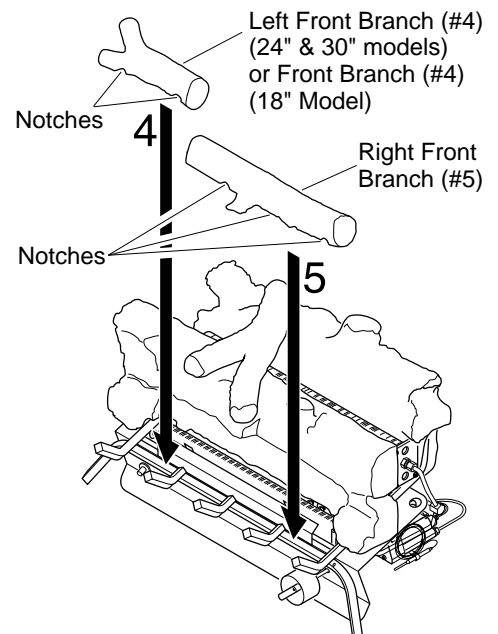

Figure 21 - Installing Left Front Branch and Right Front Branch
4. Place left front branch (#4) and right front branch (#5) (24" and 30" models) or front branch (#4) (18" model) into place (see Figure 21). Make sure notches on bottom rest on grates.